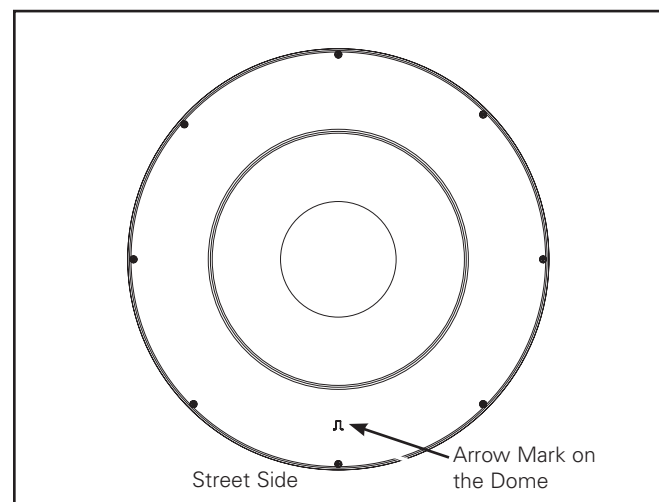

Figure 3.
- 5. For luminaire with asymmetric optics, rotate the fixture according to arrow mark on the dome towards the street side. (Figure 3.)